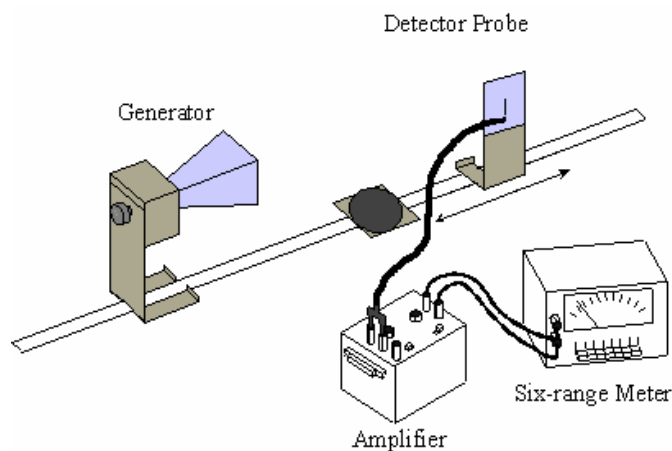

Fig. 3. Experimental setup.
2. Locate the microwave detector probe (see Fig. 3), a rectangular piece of circuit board (and attached cord) to which a *detector* diode is soldered. Notice the solder line which extends beyond the ends of the diode and which acts as an antenna.
**Question 1-1:** If the antenna is placed in the vertical direction as shown in Figure 3, in what direction should the electric field be directed to maximize the signal received by the antenna (and diode)?
- Using a BNC-to-banana adapter, plug the probe into the IN of the amplifier. One of the arms of the BNC-to-banana adapter has a tab, which indicates it should be plugged into the ground (black) terminal. Position the diode at about 50 cm from the front of the microwave generator's horn and oriented vertically, as shown in Fig. 3. Make sure the orientation of the generator is  $0^\circ$ . (Look near the knob.)